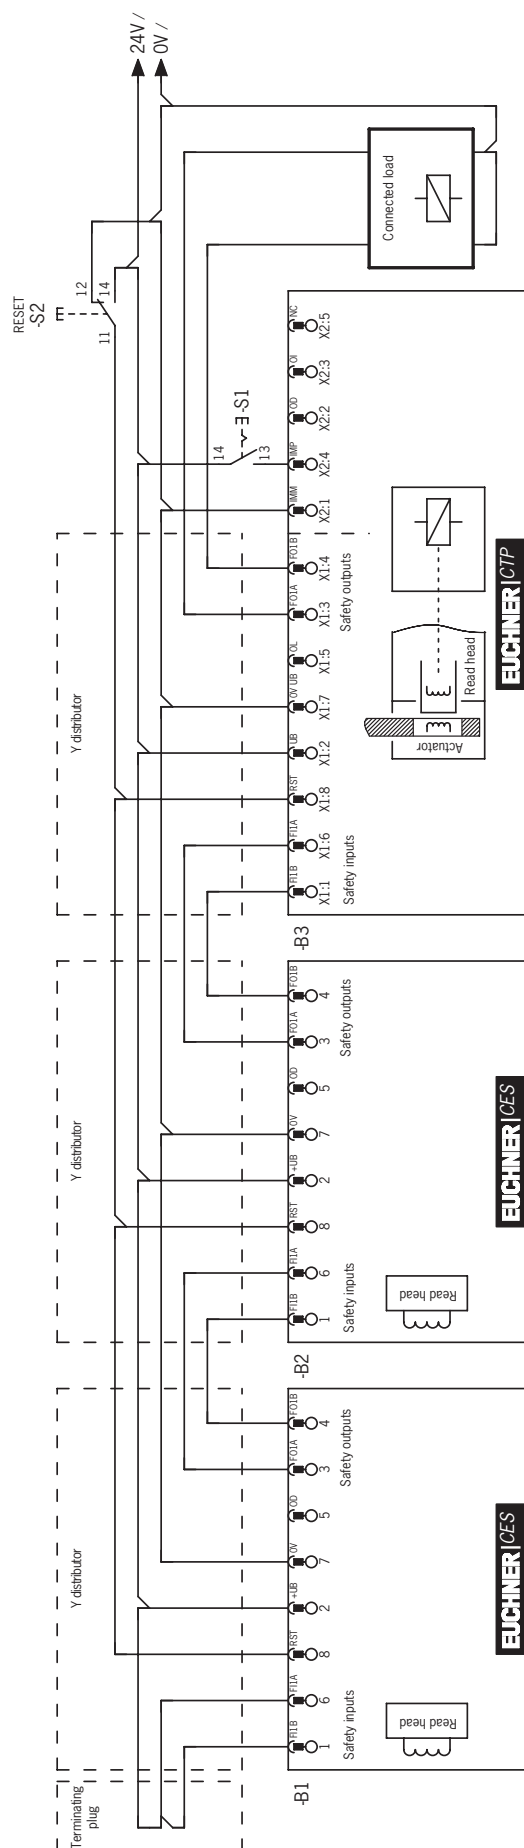

Figure 5: Connection example for operation in a CES-AR switch chain
- › A common signal must be used for all switches in the chain. This can be a changeover switch or the output of a control system. A pushbutton is not suitable, because Reset must always be connected to GND during operation (see switch S11 in Figure 5 on page 25).
Input RST must be connected as shown in *Figure 5 on page 25* to permit this.